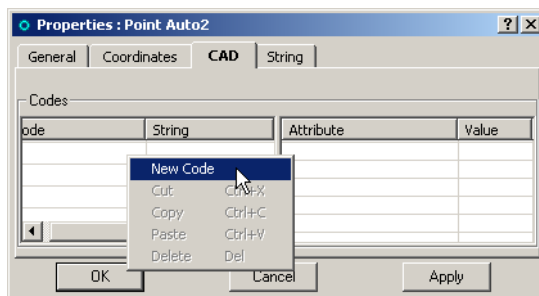

Figure 4-79. Code Pop-up Menu in Point Tab
- Right-click in the *Name* field and click **New Code** on the pop-up menu (Figure 4-79).